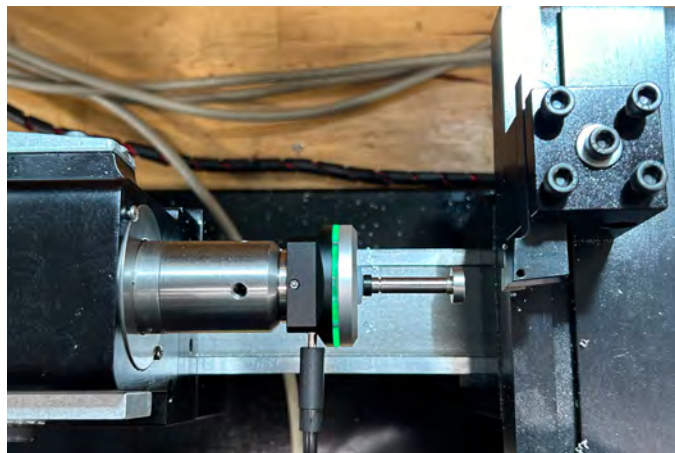

FIGURE 39
- Jog the tool so the cutting tip is approximately at the center of the stylus in the X-axis. Then Jog to a clearance point in the Z-axis (about 1/2" in front of the stylus) (see Figure 39).